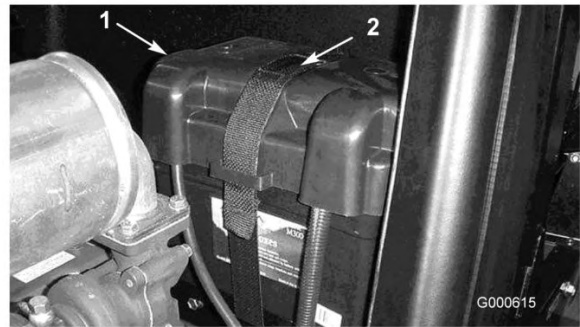

Figure 42
2. Remove the battery strap and cover (Figure 42).